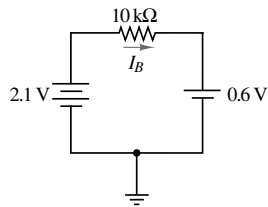

Figure 10.26
1. *DC operating point.* On the assumption the *BE* junction resistance is much smaller than R_B , we can state that the junction voltage is constant, $v_{BE}(t) = V_{BEQ} = V_\gamma$, and plays a role only in the DC circuit. The DC equivalent circuit for the base is shown in Figure 10.26 and described by the equation